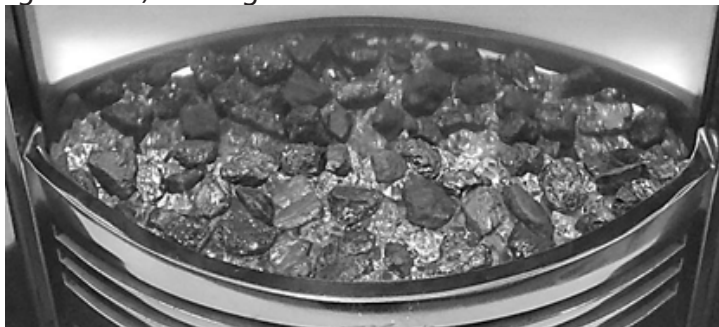

Fig. 3
2. Add coal or pebbles on top of the crystals. Allow for spaces in between coal/pebbles, for the acrylic crystals (glowing embers). See Fig.3 below.